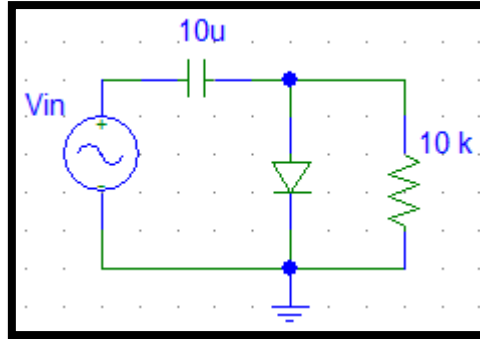

Figure 6: Clamping Circuit
- Build the circuit shown below in Figure 6 using a rectifier diode provided by your teaching assistant and available capacitors and resistors.